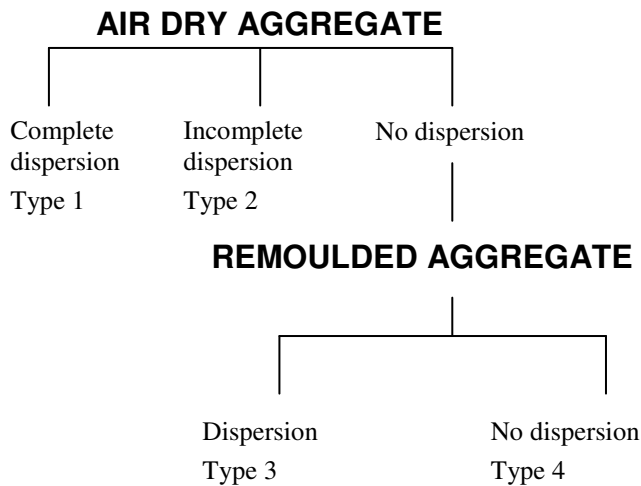

Figure 2: Flow diagram for assessing degree of dispersion in soil.
5. Dispersion, initially seen as a small halo of milkiness around the base of aggregates, may occur in as little as 10 minutes for strongly dispersive soil, but may take up to 20 hours. Leave the samples undisturbed for 20 hours before rating the degree of dispersion, (see flow chart (Fig. 2).